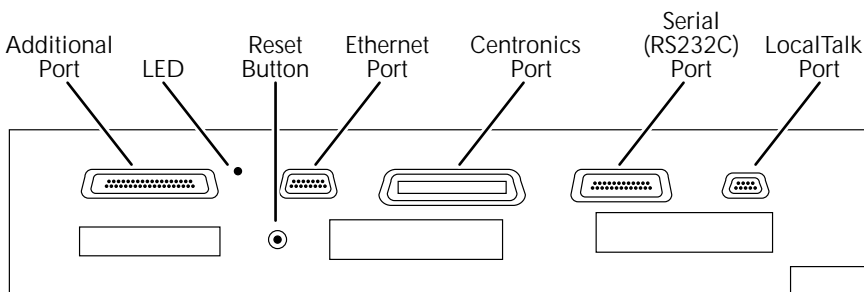

Figure 1.3. The AccuSet I/O panel for systems with internal RIPs.
- If you have an internal RIP, there are five ports. See Figure 1.3.